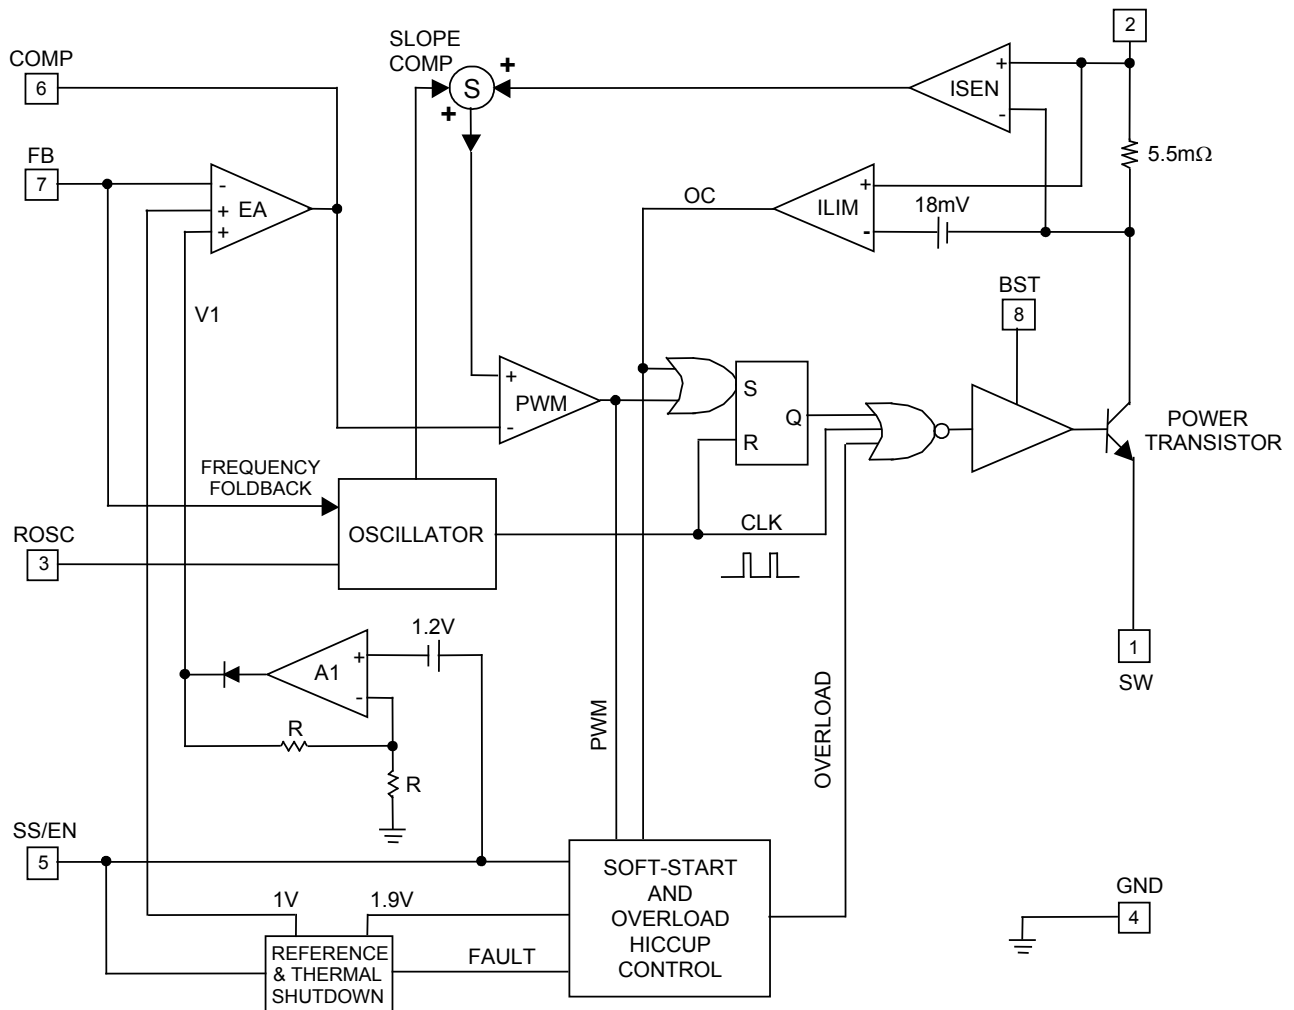

Figure 2 — SC4524C Block Diagram
As shown in Figure 2, the switch collector current is sensed with an integrated 5.5mΩ sense resistor. The sensed current is summed with a slope-compensating ramp before it is compared with the transconductance error amplifier (EA) output. The PWM comparator trip point determines the switch turn-on pulse width. The current-limit comparator ILIM turns off the power switch when the sensed signal exceeds the 18mV current-limit threshold.
The error amplifier EA in Figure 2 has two non-inverting inputs. The non-inverting input with the lower voltage predominates. One of the non-inverting inputs is biased to a precision 1V reference and the other non-inverting input is tied to the output of the amplifier A₁. Amplifier A₁ produces an output V₁ = 2(V_{SS/EN} - 1.2V). V₁ is zero and COMP is forced low when V_{SS/EN} is below 1.2V. During start up, the effective non-inverting input of EA stays at zero until the soft-start capacitor is charged above 1.2V. Once V_{SS/EN} exceeds 1.2V, COMP is released. The regulator starts to switch when V_{COMP} rises above 0.4V. If the soft-start interval is made sufficiently long, then the FB voltage (hence the output voltage) will track V₁ during start up. V_{SS/EN} must be at least 1.83V for the output to achieve regulation. Proper soft-start prevents output overshoot. Current drawn from the input supply is also well controlled.
becomes armed. As the load draws more current from the regulator, the current-limit comparator ILIM (Figure 2) will eventually limit the switch current on a cycle-by-cycle basis. The over-current signal OC goes high, setting the latch B₃. The soft-start capacitor is discharged with (I_D - I_C) (Figure 3). If the inductor current falls below the current limit and the PWM comparator instead turns off the switch, then latch B₃ will be reset and I_C will recharge the soft-start capacitor. If over-current condition persists or OC becomes asserted more often than PWM over a period of time, then the soft-start capacitor will be discharged below 1.9V. At this juncture, comparator B₄ sets the overload latch B₂. The soft-start capacitor will be continuously discharged with (I_D - I_C). The COMP pin is immediately pulled to ground. The switching regulator is shut off until the soft-start capacitor is discharged below 1.0V. At this moment, the overload latch is reset. The soft-start capacitor is recharged and the converter again undergoes soft-start. The regulator will go through soft-start, overload shutdown and restart until it is no longer overloaded.
The PWM latch in Figure 2 is reset every cycle by the clock. The clock also turns off the power transistor to refresh the bootstrap capacitor. This minimum off time limits the attainable duty cycle of the regulator at a given switching frequency. The measured minimum off time is 100ns typically. If the required duty cycle is higher than the attainable maximum, then the output voltage will not be able to reach its set value in continuous-conduction mode.